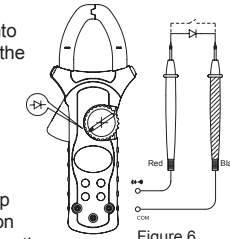

Figure 6
E. Testing for Diodes and Continuity (See Figure 6)